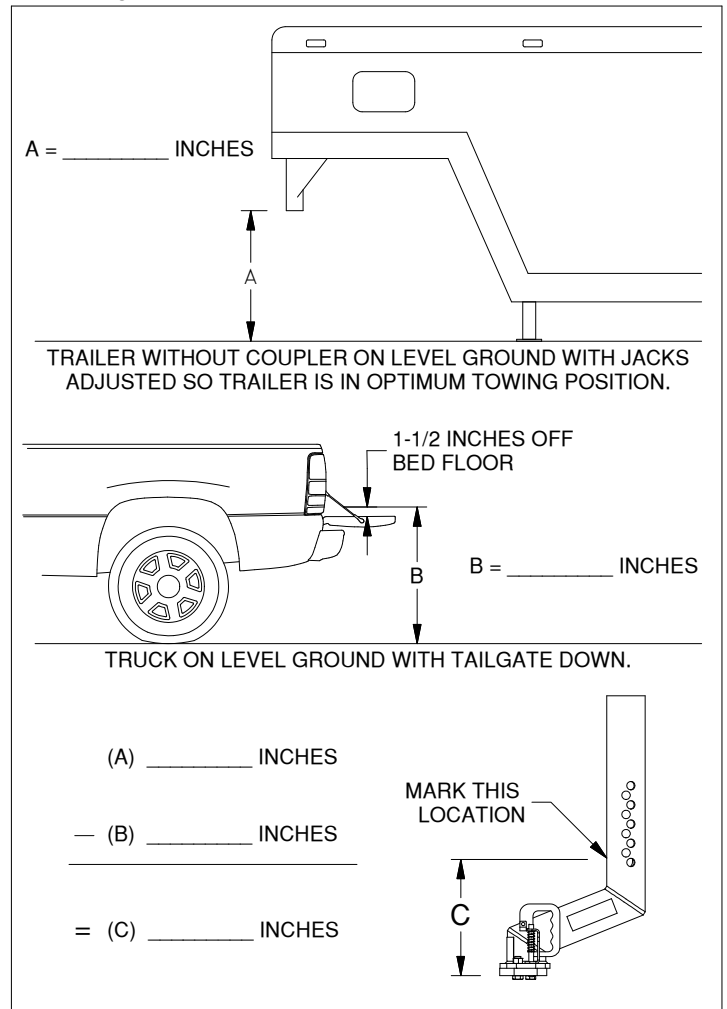

Figure A5: Coupler height determination.
- 2. Mark the coupler.** With the trailer jacks adjusted so the trailer is in its optimum towing position, determine the distance between the bottom of the trailer sleeve and where the bottom of the coupler will be when coupled to the ball. See figure A5. Mark this position on the coupler.